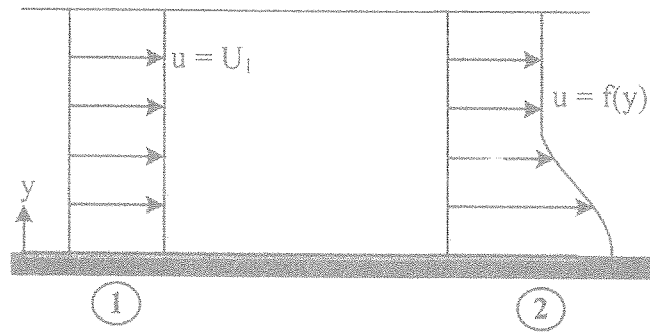

Figure Q3
- Q3. A liquid of constant density  $\rho$  flows steadily in a horizontal square section duct of side  $h = 0.3 \text{ m}$  with a velocity variation across the duct section as shown in Figure Q3.